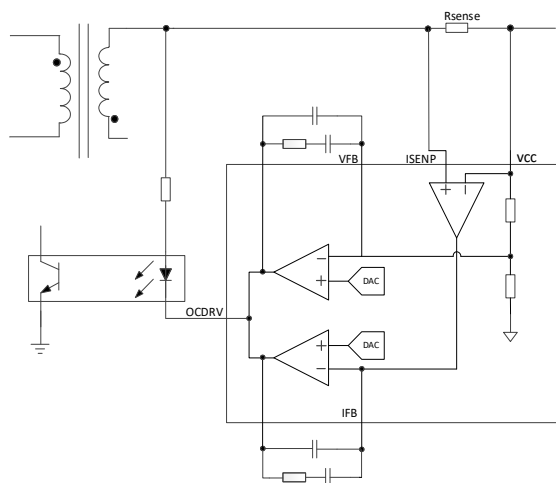

Figure 4. The CC/CV Control Loop in AP43771V
The AP43771V uses Constant Voltage (CV) and Constant Current (CC) functions to control the output voltage and current as shown in Figure 4, where both loops are connected at OCDRV pin, and the feedback signal is photo-coupled from the PD controller to the primary power stage.